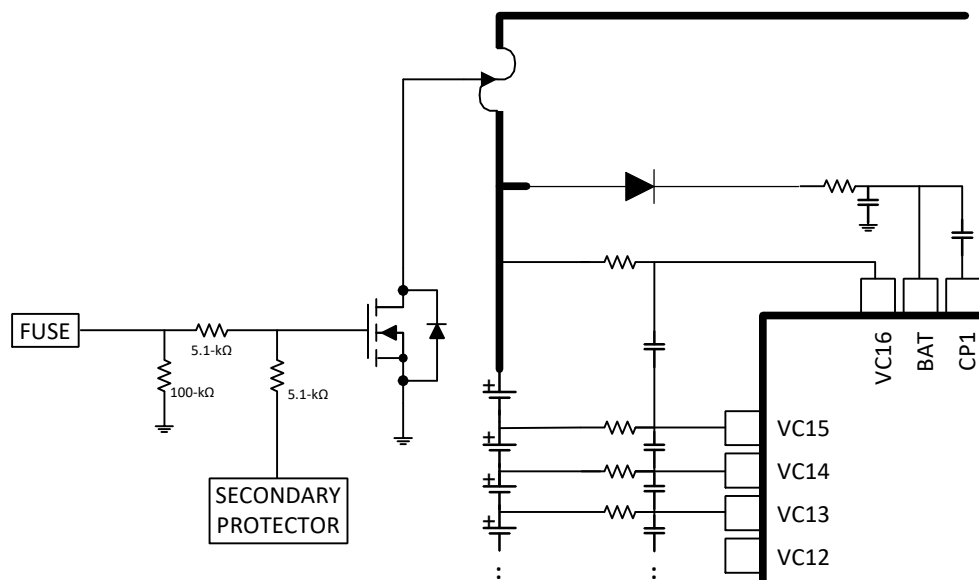

图 12-1. FUSE Pin Operation
The FUSE pin on the BQ76952 device can be used to blow a chemical fuse in the presence of a Permanent Fail (PF), as well as to determine if an external secondary protector in the system has detected a fault and is attempting to blow the fuse itself. The pin can drive the gate of an NFET, which can be combined with the drive from an external secondary protector, as shown in Figure 12-1. When the FUSE pin is not asserted by the BQ76952 device, it remains in a high-impedance state and detects a voltage applied at the pin by a secondary protector. The device can be configured to generate a PF if it detects a high signal at the FUSE pin.